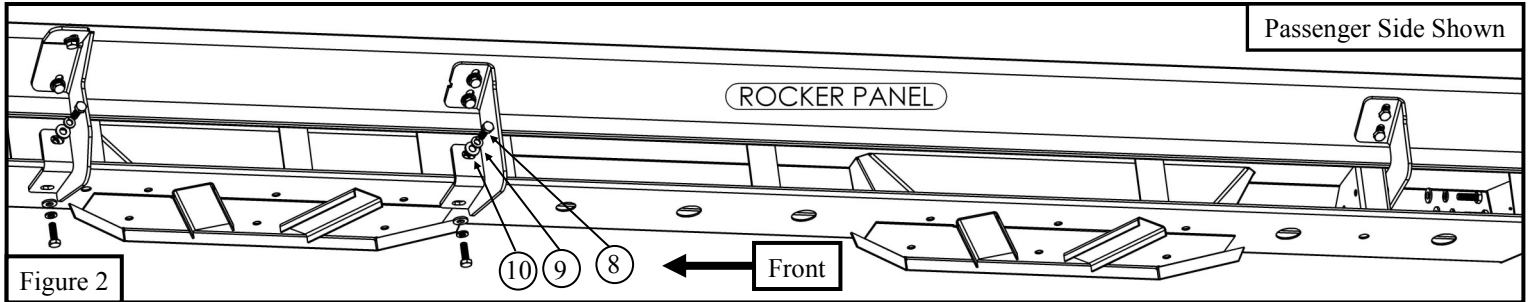

Figure 2
- Loosely secure the both running boards onto the previously installed brackets using the provided M8 hardware. **See Figure 2.**